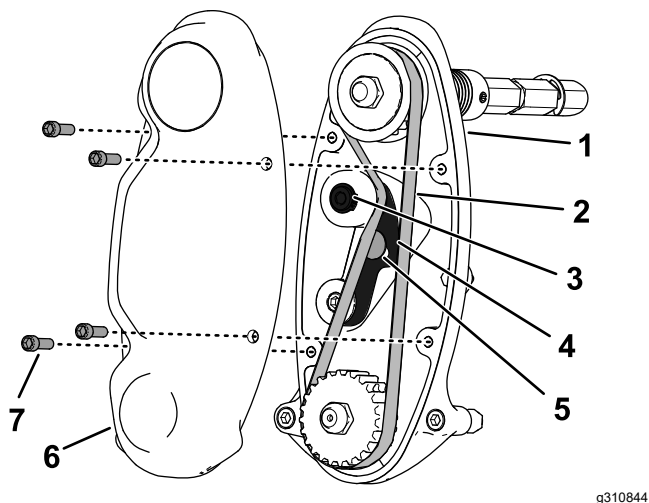

Figure 15
3. Use a beam-style torque wrench to apply 6 to 7 N·m (55 to 60 in-lb) of force to the upper idler-arm internal screw (Figure 15).